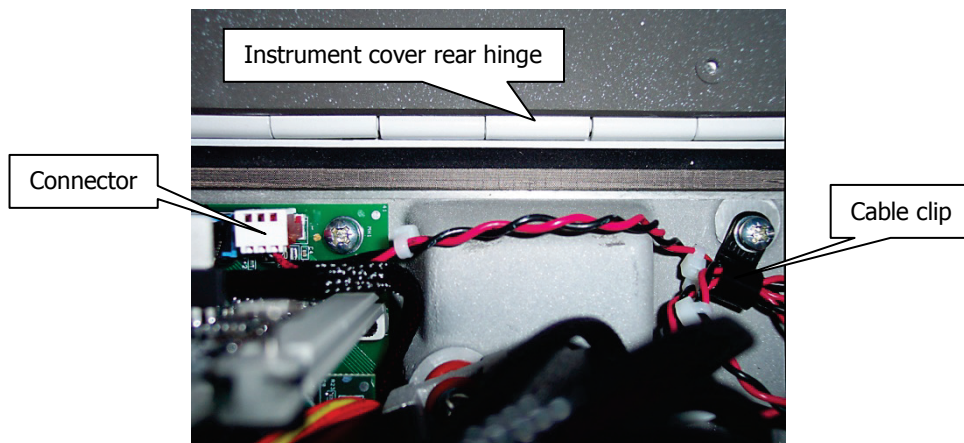

Figure 56 Laser board connector and cable clip (from top of instrument)
4. Unscrew and remove the cable clip that secures the thin black and red PSU laser cable at the rear of the instrument, underneath the laser assembly (Figure 56).
13. Refit the cable clip (Figure 56), so that it does not get trapped in the cover.